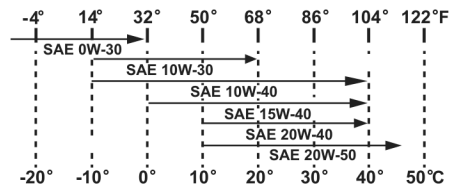

Figure 21
4. See Figure 21 for oil recommendations.